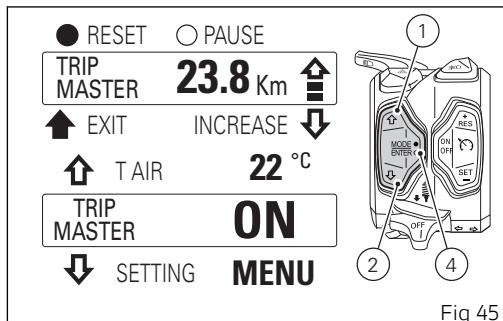

Fig 45
Then, the Trip Master control is displayed above the menu and it can be managed with buttons (1), (2) and (4) (Fig 45).